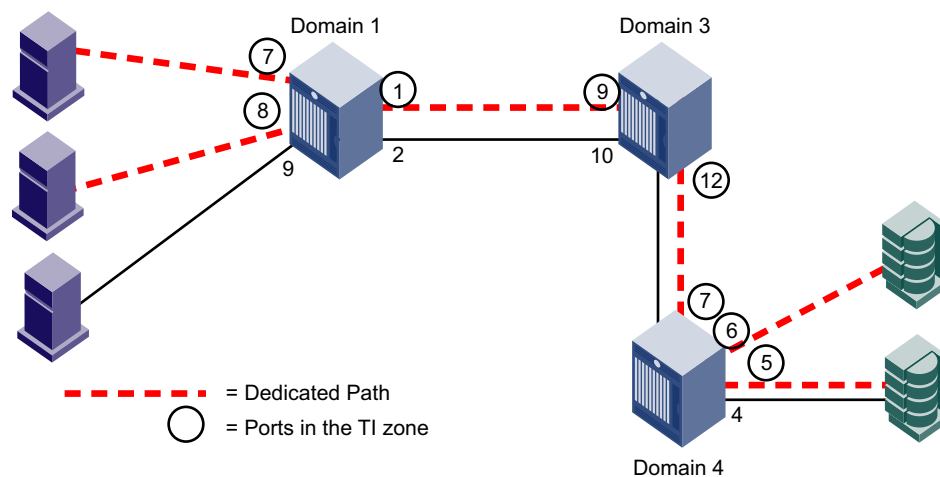

FIGURE 35 Traffic Isolation zone creating a dedicated path through the fabric
Figure 35 shows a fabric with a TI zone consisting of the following:
In Figure 35, all traffic entering Domain 1 from N\_Ports 7 and 8 is routed through E\_Port 1. Similarly, traffic entering Domain 3 from E\_Port 9 is routed to E\_Port 12, and traffic entering Domain 4 from E\_Port 7 is routed to the devices through N\_Ports 5 and 6. Traffic coming from other ports in Domain 1 would *not* use E\_Port 1, but would use E\_Port 2 instead.
For example, in Figure 35 on page 380, if the dedicated ISL between Domain 1 and Domain 3 goes offline, then the following occurs, depending on the failover option:
- This feature is intended for use in simple linear fabric configurations, such as that shown in Figure 35 on page 380.